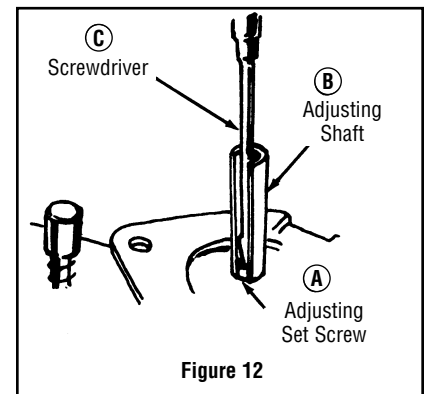

Figure 12
- B. While holding the adjusting shaft (B) tightly, turn small center adjusting screw (A) with small screwdriver (C) until thermostat clicks "off". (See Figure 12.)